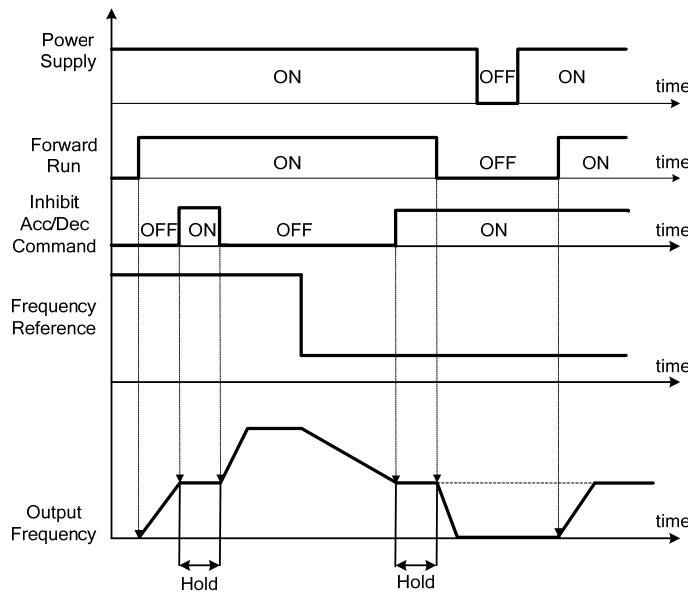

Figure 4.3.21 Inhibit acceleration / deceleration command operation
- Operation of inhibit Acceleration/deceleration function, please refer figure 4.3.21 .